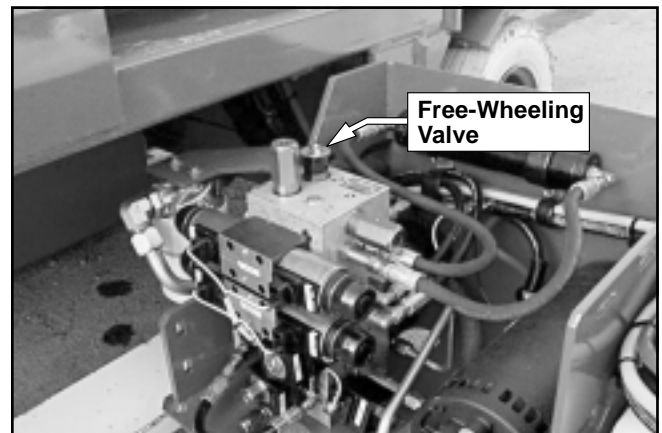

Figure 10.2—Free-Wheeling Valve
6. Unlatch and swing out the hydraulic tray. The free-wheeling valve is located on the hydraulic manifold (refer to Figure 10.2). Turn the free-wheeling valve counterclockwise to a fully opened position.